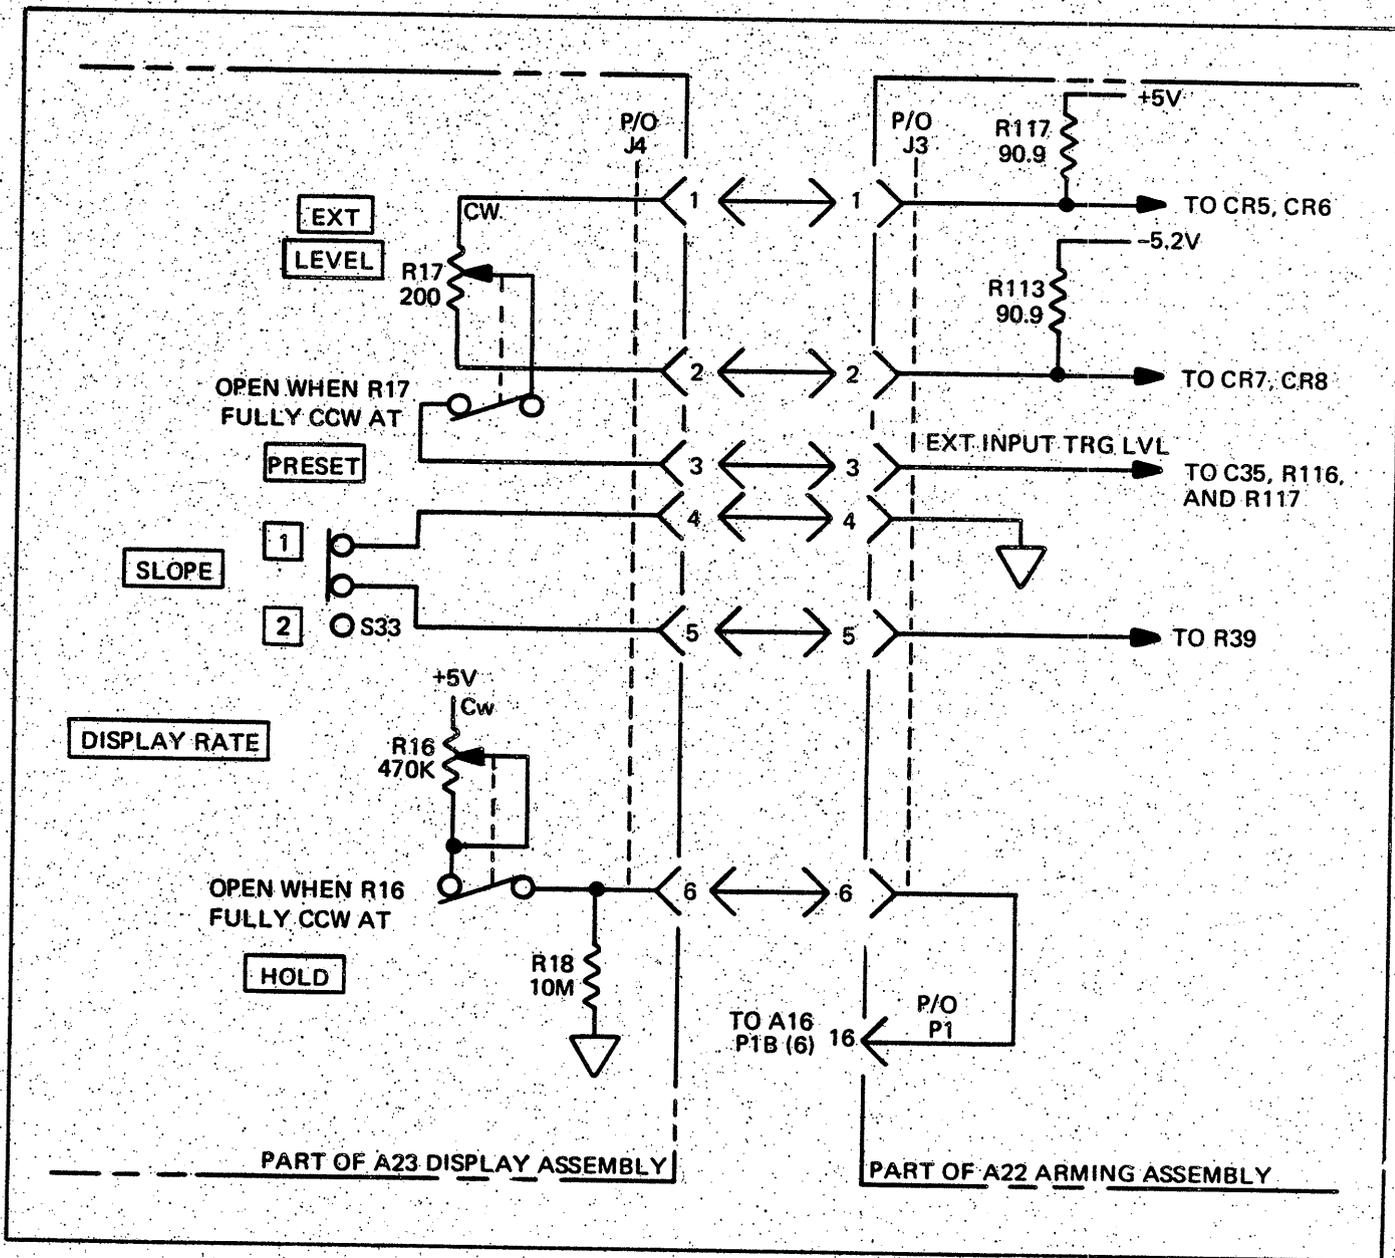

Figure 2. A22 (05370-60122) and A23 (05370-60123) Changes in CHANGE 4
- >Change connections to A2J3 and wiring to agree with attached Figure 2.
- >Change wiring and values of EXT LEVEL control (R17) and DISPLAY RATE control (R16) as shown in attached Figure 2.